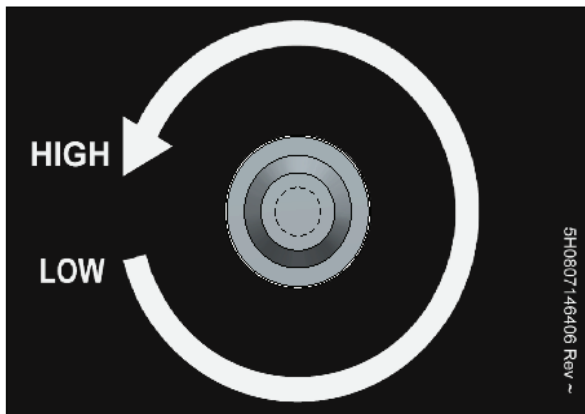

Fig. 71 — Potentiometer Label
- d. Turn on the unit and confirm the fan is running. The voltmeter should display a value between 3-10 vdc. Turn the potentiometer dial counter-clockwise to increase the vdc signal (increase speed) or clockwise to decrease the vdc signal (decrease speed). See Fig. 71. Once the voltmeter reads the desired vdc signal, stop turning the potentiometer dial.